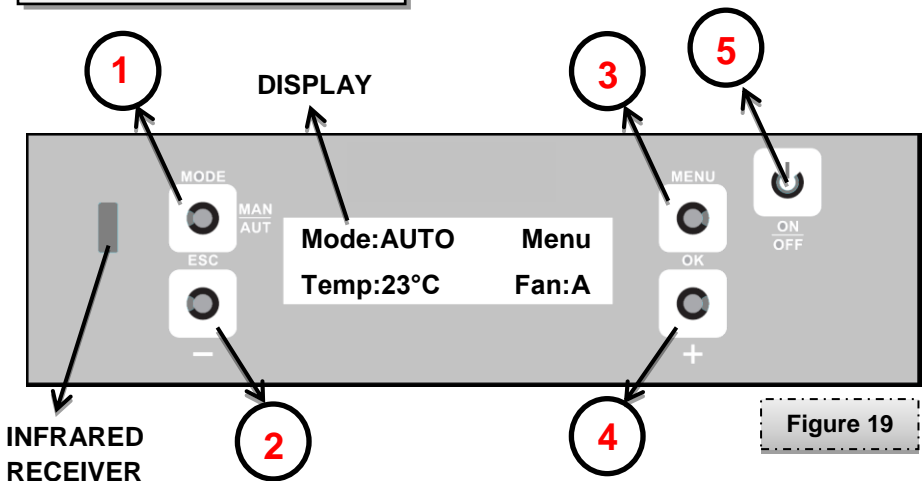

Figure 19
NOTE: All explanations hereinafter will refer to the buttons on this *Figure 19*.
The remote control allows you to regulate the heating power, speed of warm air ventilator and stove activation and deactivation. When used, the remote control must ALWAYS be directed toward the infrared receiver on the control panel (figure 19).
The stove is **turned ON** by pressing the **ON/OFF** key on the control panel **for the duration of 2 seconds** (key 5 – figure 19) or by pressing **key 1 (ON)** on the remote control. The control panel will produce an audio signal and the screen will display the **IGNITION** option.